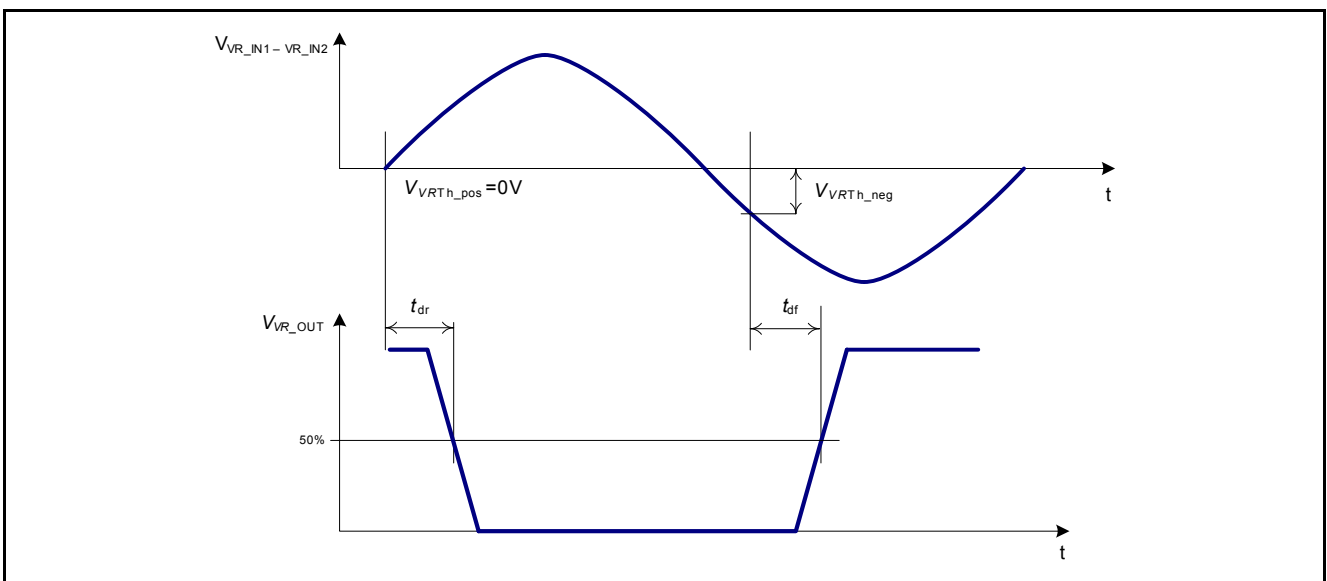

Figure 12 Timing Characteristics of the VR Sensor Interface
The variable reluctance (VR) sensor interface converts an output signal of a VR sensor into a logic level signal suited for μC 5V input ports. The voltage difference between the two input pins, **VR_IN1** and **VR_IN2**, which are connected to the two output pins of the VR sensor, is detected and the output pin **VR_OUT** is switched depending on the sign of the voltage difference (see Figure 12)The amplitude of the VR sensor signal is limited by an internal clamping circuit to avoid damage of the device due to over voltage caused by the VR sensor signal.